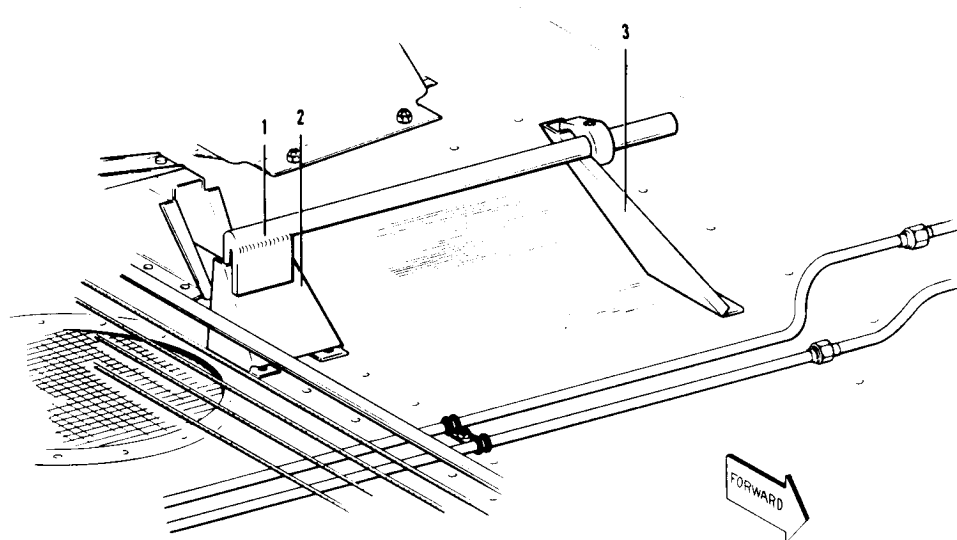

Figure 6-5. Checking Aligning Brackets of Gear Back-Up Extender Actuator
*To reform the main fuselage mounting bracket, an Aligning Tool may be used. (Refer to Figure 6-5.) This tool may be fabricated from dimensions given in Figure 6-10. When proper alignment has been accomplished, tighten the machine screws.*